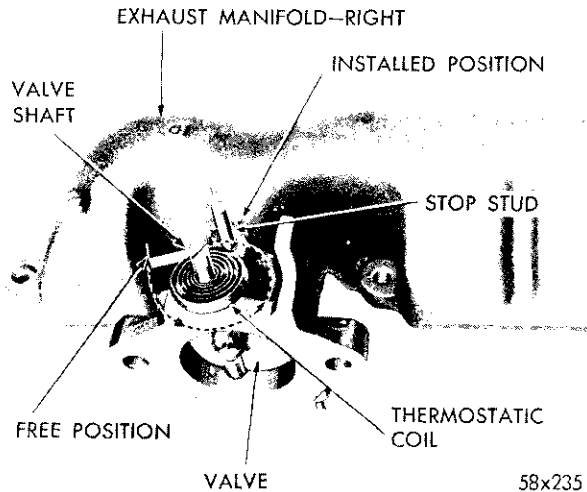

Fig. 7—Positioning Coil
with outer end tongue of coil in lower right-hand position, as shown in Figure 7. Press inner end of coil into slot of shaft and seat firmly.
(3) Move outer end tongue around and hook under pin, as shown in Figure 7.